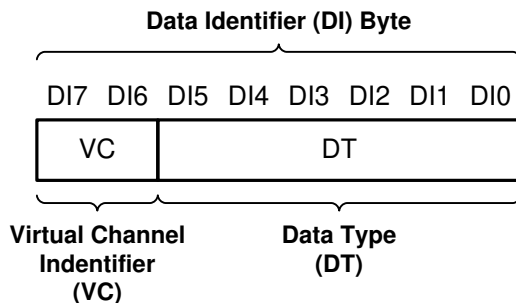

图 7-9. CSI-2 Data Identifier Structure
The DS90UB638-Q1 MIPI CSI-2 protocol interface transmits the data identifier byte containing the values for the virtual channel ID (VC) and data type (DT) for the application specific payload data, as shown in 图 7-9. The virtual channel ID is contained in the 2 MSBs of the data identifier byte and identify the data as directed to one of four virtual channels. The value of the data type is contained in the six LSBs of the data identifier byte. When partnered with DS90UB63x-Q1 CSI-2 serializer, the Data Type is passed through from the received CSI-2 packets.